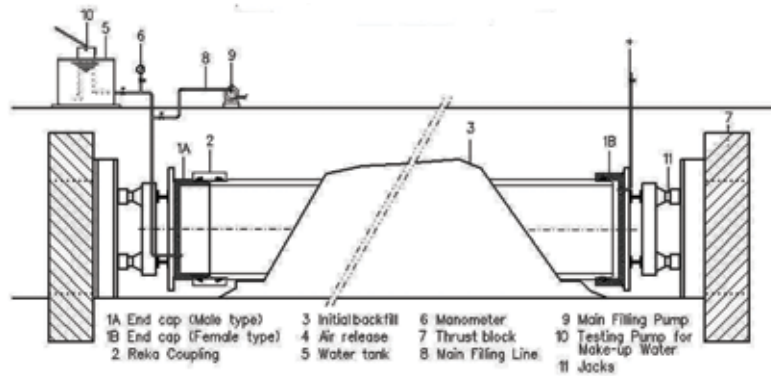

Figure 19: Thrust blocking pipe ends and site pressure test set up
- The opened ends of a line must be sealed temporarily with GRE or steel/Cast iron end-caps. GRE testing end-caps can be purchased from the manufacturer with the pipes and fittings. All the end-caps should have an inlet for water filling and an outlet for venting. See figure 19 for a typical arrangement of a test section and apparatus. The approximate end thrust force is given in table 10.
Due to the thrusts occurring at the testing end-caps, temporary blocks must be used to brace the pipe end-caps in order to prevent line displacement as indicated in the figure 19.
In the gap between the end of the pipeline and the block, jacks should be placed as shown in figure 19. The last pipe length should also be wedged on both sides, at the top and at the bottom, in order to prevent lateral and vertical movements. Sandbags can be used for this purpose.